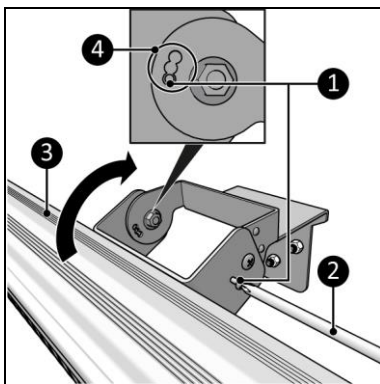

Figure 11
The device has 3 positions (Figure 11, pos. 4):
1. Hold the main body (Figure 11, pos. 3) while you unscrew the small screws (Figure 11, pos. 1).
2. Move the main body (Figure 11, pos. 3) in to the desired position.
3. Tighten the small screws (Figure 11, pos. 1).